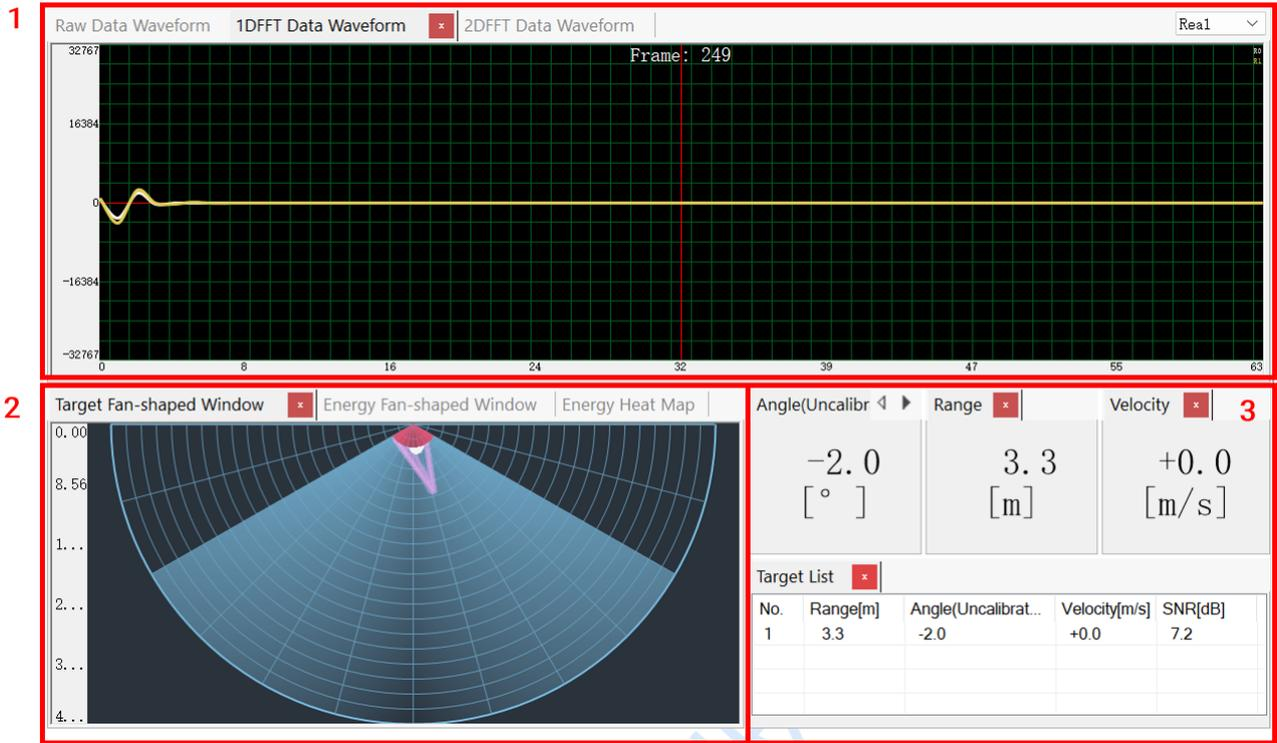

Figure 5-3 The Waveform Window, Fan-shaped Window, and Target Information Window during detecting
- As shown in Figure 5-3, Waveform Window(1), Fan-shaped Window(2), and Target Information Window(3) start displaying data curves, data, and target information in real time;